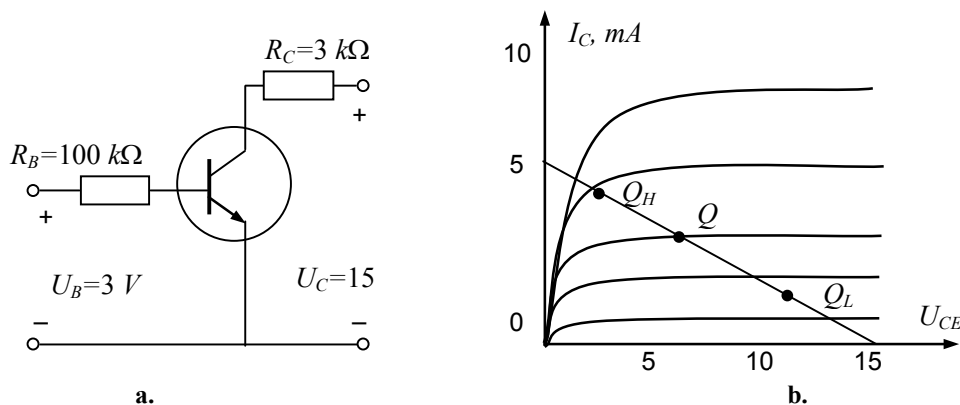

Fig. 1.26
**Example.** Fig. 1.26 is an example of a base-biased circuit. In the case of a short circuit across the collector-emitter terminals, the saturation current is  $15 \text{ V} / 3 \text{ k}\Omega = 5 \text{ mA}$ . In the case when collector-emitter terminals are open, the cutoff voltage is  $15 \text{ V}$ . The load line shows the saturation current and cutoff voltage. The base current is approximately equal  $I_B \approx 3 \text{ V} / 100 \text{ k}\Omega = 30 \mu\text{A}$ . Let the current gain of the transistor is  $\beta = 100$ . Then the collector current is  $I_C = \beta I_B = 100 \times 30 \mu\text{A} = 3 \text{ mA}$ . This current flowing through  $3 \text{ k}\Omega$  produces a voltage of  $9 \text{ V}$  across the collector resistor. Here, voltage across the transistor is calculated as follows:  $U_{CE} = U_C - U_{RC} = 15 - 9 = 6 \text{ V}$ . Plotting  $3 \text{ mA}$  and  $6 \text{ V}$  gives the operating point  $Q$  shown on the load line of Fig. 1.26. If the current gain varies from  $50$  to  $150$ , for example, the base current remains the same because the current gain has no effect on it. Plotting the new values gives the low point  $Q_L$  and the high point  $Q_H$  shown in Fig. 1.26.